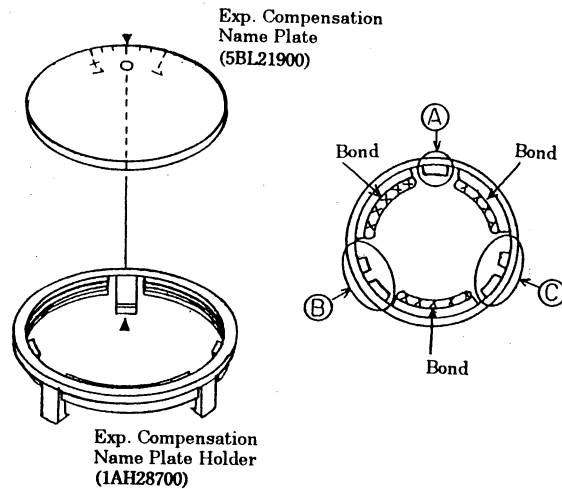

Fig.8
- The Exp. Compensation Name Plate is fixed to the Exp. Compensation Name Plate Holder with the bond (Cemedine 551). (See Fig. 8)